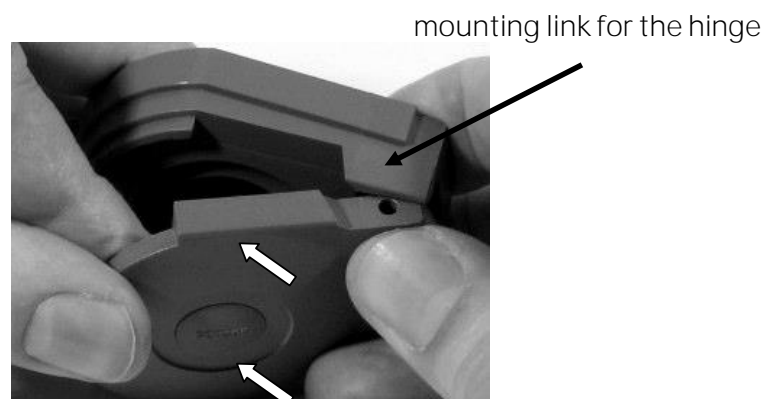

Figure 15 Docking Station Door insertion
4. Insert the new Docking Station Door with an aperture angle of the door of 45° (see *Figure 15 Docking Station Door insertion*). The door must not be closed further, as this could damage the pressure spring. First press on the bottom, then on the top of the door to insert the hinge into the mounting link (see *section 8.3 "Testing Accessories and Spare Parts"*).